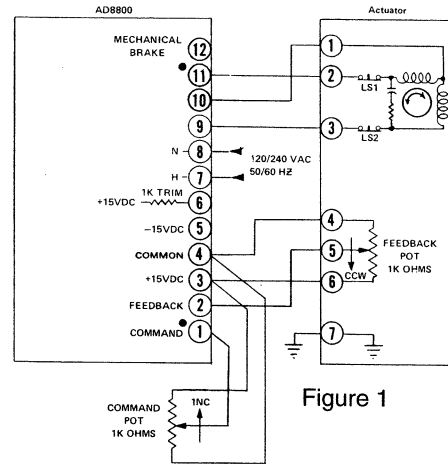

Figure 1
- If the command is a potentiometer (Fig. 1), the excitation voltage across it may be supplied by amplifier terminals 3 and 4.